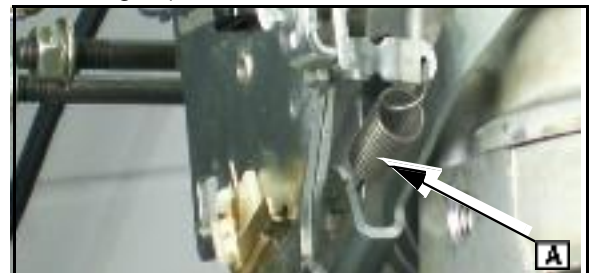

Fig. 26
5. Connect governor return spring ([A] Fig.26).